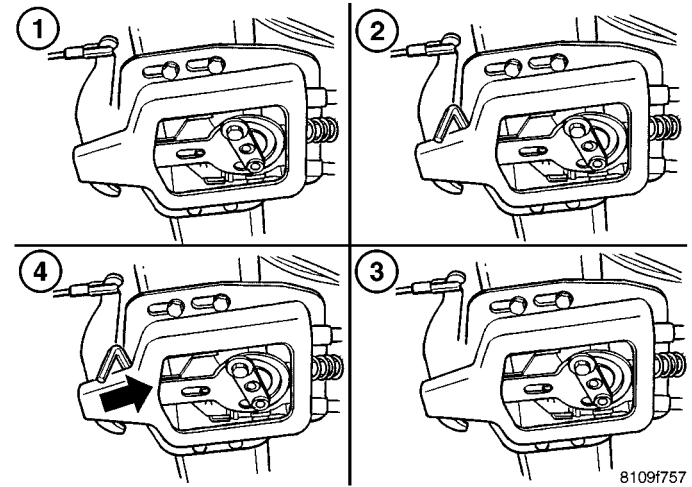

Fig. 33 PARK BRAKE ADJUSTER
- (1) Loosen the bolts of the mounting brackets (Fig. 33).
- (2) Insert a drill bit or an allen wrench with a 6 mm diameter between the mounting bracket and front lever (Fig. 33).
- (3) Push the mounting bracket back until the front brake cable is free of play and without tension (Fig. 33).
- (4) Tighten the bolts to the mounting bracket. Tighten to 25 N·m (221 in. lbs.) (Fig. 33).
(5) Remove the 6 mm diameter drill bit or allen wrench (Fig. 33).
(6) Tighten the hand brake lever one notch (Fig. 33).